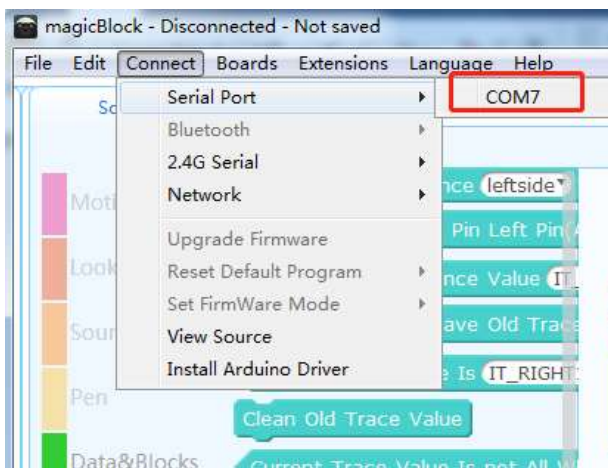
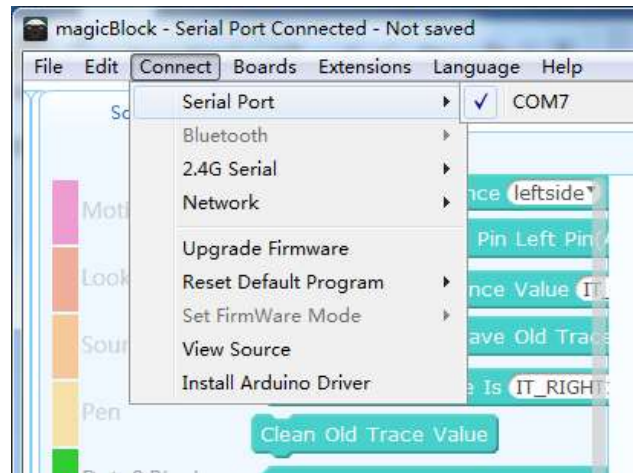

Figure 2-2-3
Figure 2-2-4
- 3) Click on "Connect to COM4 (different computers have different numbers of COM ports)", as shown in Figure 2-2-3. After the correct connection, there will be a "Serial Port Connected" prompt at the top of the software. At this time, MagicBlock and Starter-bot are successfully connected, as shown in Figure 2-2-4.